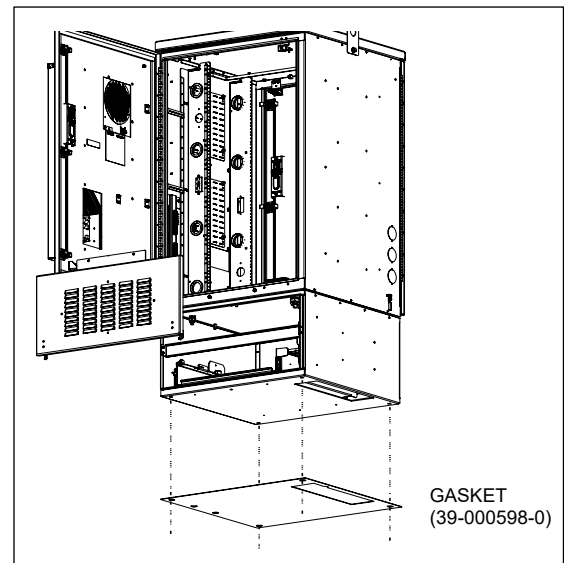

**Figure 5**
- Figure 5 shows the required conduit openings and mounting hole dimensions for entering/mounting the bottom of the CUBE. Use these dimensions when designing the pad.